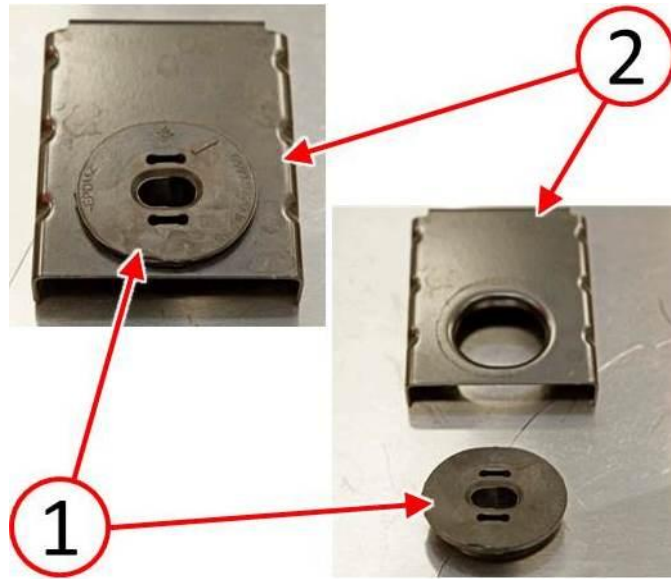

Fig. 4 Remove Bushings From Brackets
5. With the radiator support brackets off-vehicle, remove the rubber bushing (1) from the bracket (2), repeat for both brackets (Fig. 4).